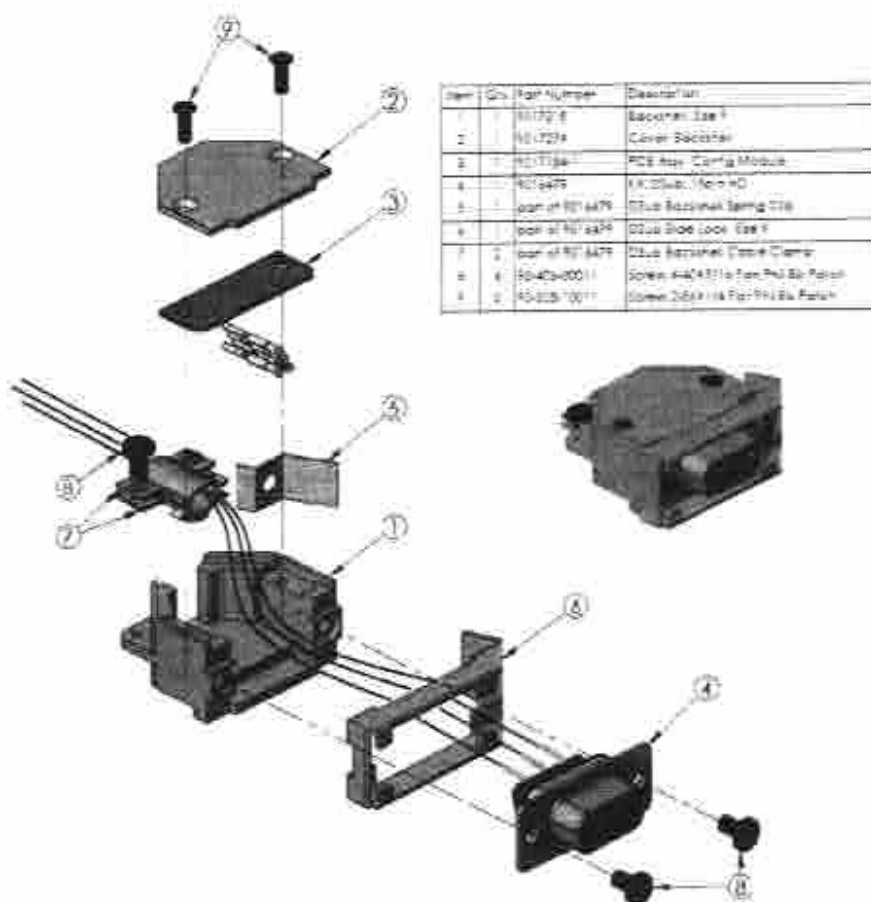

Figure 10 Connector and Configuration Module Assembly
Reference figure 10 for the installation details.
1. Insert the pins of the Configuration Module PC Board Assembly (Item 3) Figure 10 into their corresponding locations as noted below using an appropriate pin insertion tool.